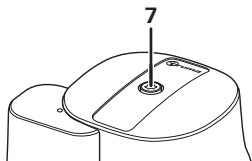
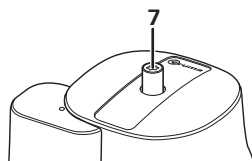

Figure 2a
Figure 2b
The crash sensor has a reset button, the position of which indicates its status: “Ready for operation” position (Figure 2a) or “not ready for operation” position (Figure 2b).
To reset, press the yellow reset button (7) firmly, turn it slightly clockwise, hold it for 10 seconds and ensure that it stays in the “ready for operation” position (Figure 2a).
- Press in the triggering element of the crash sensor (9) sufficiently far that the yellow reset button (7) comes out so that the crash sensor is in the “not ready for operation” position (figure 2b).
- Remove the screw cap (10) from the test connection and connect the test pump with test hose to the test connection.